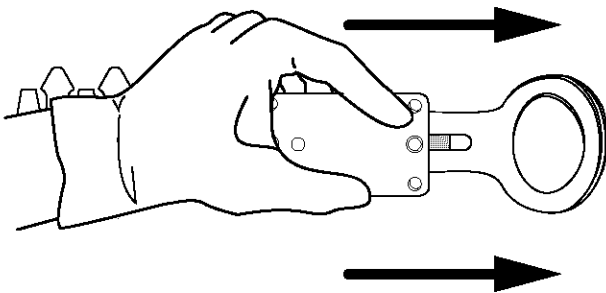

Fig. 13
- Slide the blade plate all the way forward towards the yokes (Fig. 13). The red end of the bar should be covered by the blade plate.